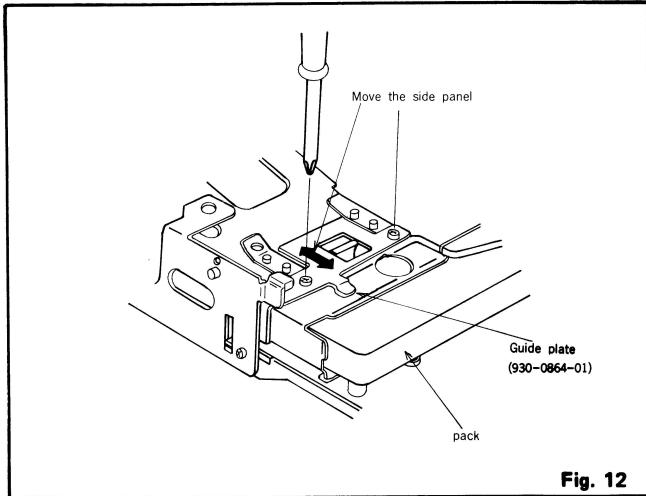

Fig. 12
8. Method of Adjusting Guide Plate (See Fig.12)